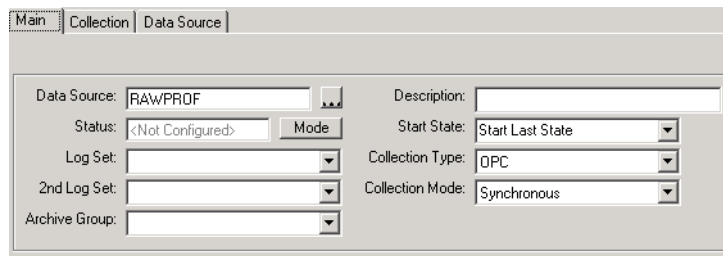

Figure 202. Data Source Defined
3. Click **Apply** when done. This enters the object name in the Data Source field, Figure 202.